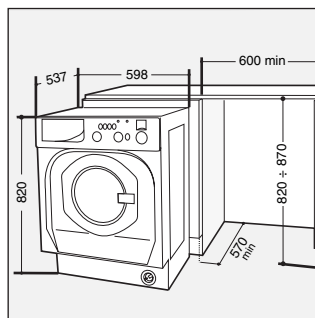

Fig. 15
- Push the machine into the opening, aligning it with the cabinets (fig. 15).